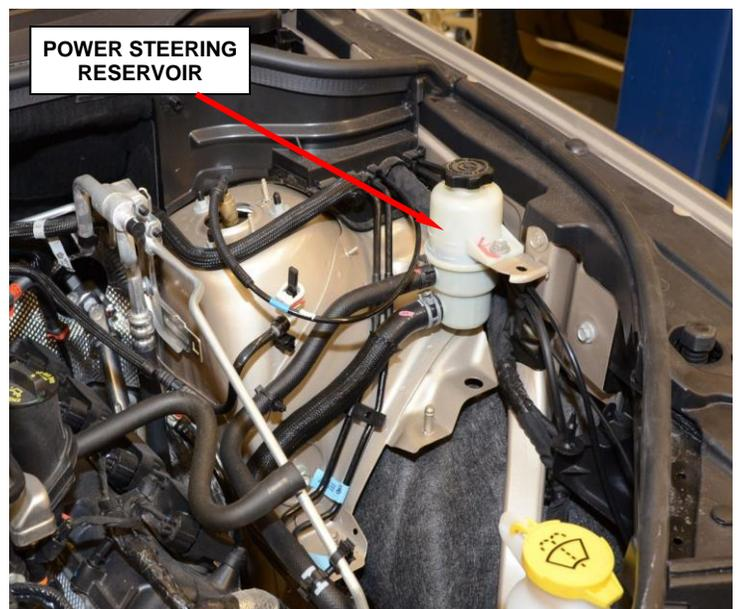

Figure 3 – Relocate Power Steering Reservoir
6. Relocate the power steering reservoir (Figure 3).
33. Place power steering reservoir into position and install retaining bolt (Figure 3).